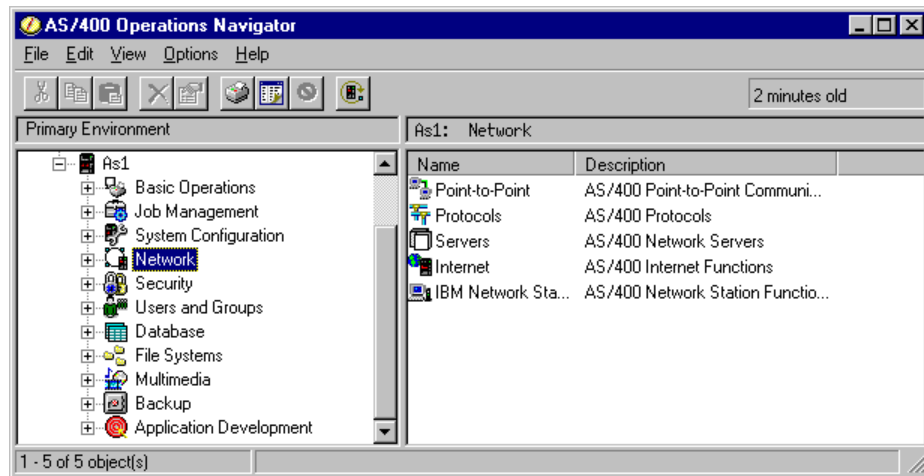

Figure 67. AS/400 Operations Navigator - Selecting Network
3. Double-click **Network**. This display in Figure 67 is shown.